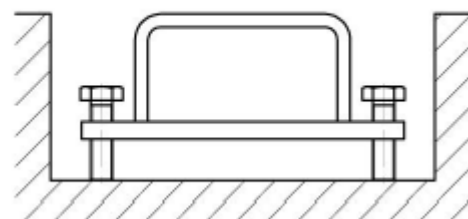

Fig. 8
- Heavy Stop Logs with bottom profile should be aligned and fixed with leveling screws (Fig.8)